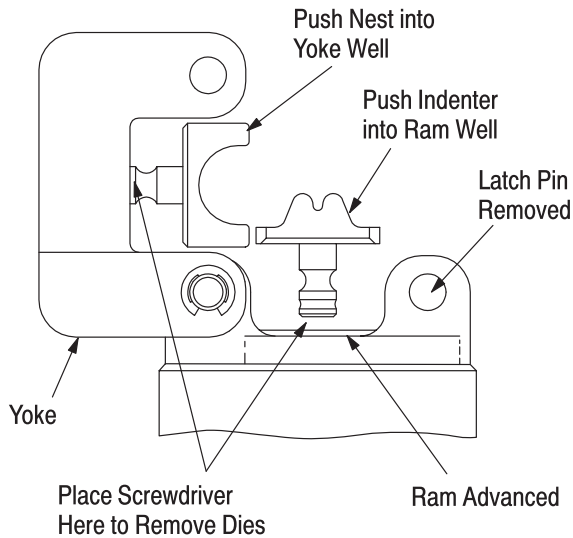

Figure 2
2. Insert stationary die (upper) into yoke by pushing die until the “ball seat” snaps into position. See Figure 2.
3. Advance ram slightly before inserting the indenter (moving die, lower), making sure that moving die is properly oriented to mate with stationary die. See Figure 2.
2. Insert screwdriver under stationary die and pry die out of yoke. See Figure 2.